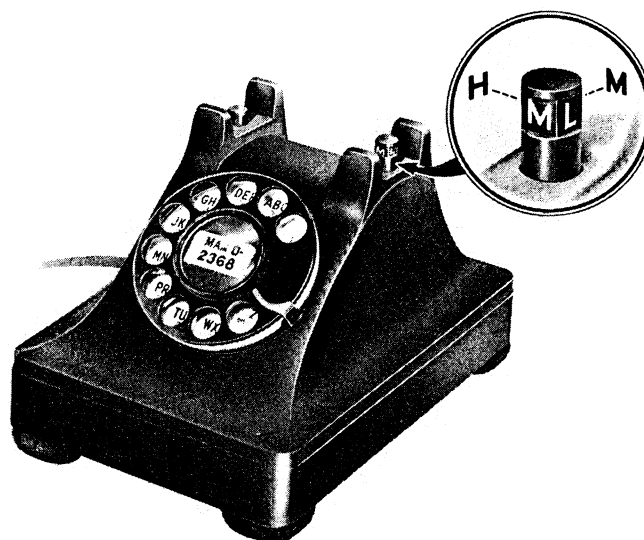

Fig. 4 — Right-hand Plunger
- The right-hand plunger also serves as an on-off and volume control switch (see Fig. 4).